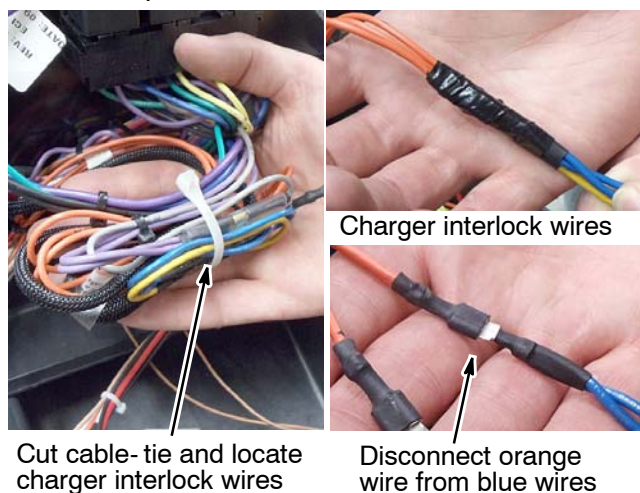

Fig. 13
12. Cut cable-tie to locate the charger interlock wire connections within the machine's wire harness as shown (Figure 13). Remove the electrical tape and disconnect the orange wire from blue wires.